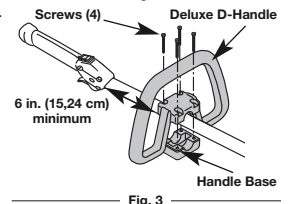

Fig. 3
2. While holding the unit in the operating position (Fig. 3), move the D-handle to the location that provides you the best grip.